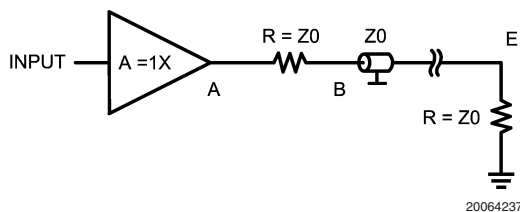
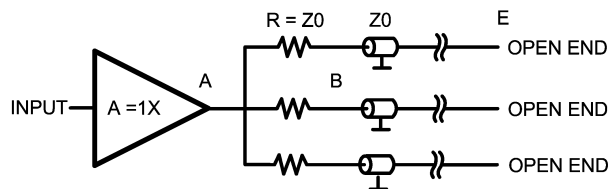
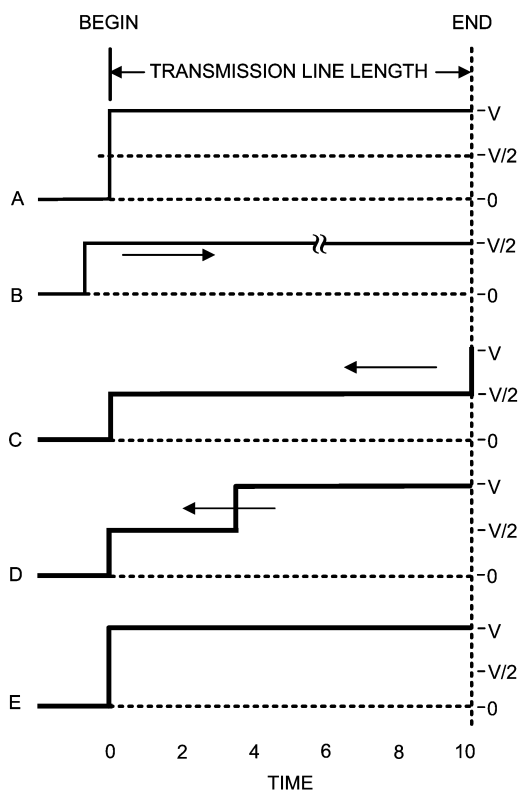

FIGURE 1.
FIGURE 3.
FIGURE 6.
- Use one buffer to drive one transmission line (see *Figure 1*)
- Use one buffer to drive several transmission lines each driving a different receiver. (see *Figure 3*)
In most cases, it is unrealistic to think that we can place a driver or buffer so close to the load that we don't need a transmission line to transport the signal. The pcb trace length between a driver and the load may affect operation depending upon the operating frequency. Sometimes it is possible to do measurements by connecting the DUT directly to the analyzer. As frequencies become higher the short lines from the DUT to the analyzer become long lines. When this happens there is a need to use transmission lines. The next point to examine is what happens when the load is connected to the transmission line. When driving a load, it is important to match the line and load impedance, otherwise reflections will occur and this phenomena will distort the signal. If a transient is applied at $T = 0$ (Figure 6, trace A) the resultant waveform may be observed at the start point of the transmission line. At this point (begin) on the transmission line the voltage increases to (V) and the wave front travels along the transmission line and arrives at the load at $T = 10$. At any point across along the line $I = V/Z_0$, where Z_0 is the impedance of the transmission line. For an applied transient of 2V with $Z_0 = 50\Omega$ the current from the buffer output stage is 40mA. Many vintage op amps cannot deliver this level of current because of an output current limitation of about 20mA or even less. At $T = 10$ the wave front arrives at the load. Since the load is perfectly matched to the transmission line all of the current traveling across the line will be absorbed and there will be no reflections. In this case source and load voltages are exactly the same. When the load and the transmission line have unequal values of impedance a different situation results. Remember there is another basic which says that energy cannot be lost. The power in the transmission line is $P = V^2/R$. In our example the total power is $2^2/50 = 80\text{mW}$. Assume a load of 75Ω. In that case a power of 80mW arrives at the 75Ω load and causes a voltage of the proper amplitude to maintain the incoming power.
Many applications, such as video, use a series resistance between the driver and the transmission line (see Figure 1). In this case the transmission line is terminated with the characteristic impedance at both ends of the line. See Figure 6 trace B. The voltage traveling through the transmission line
Another way to reach several points via a transmission line is to start several lines from one buffer output (see Figure 3). This is possible only if the output can deliver the needed current into the sum of all transmission lines. As can be seen in this figure there is a series termination used at the beginning of the transmission line and the end of the line has no termination. This means that only the signal at the endpoint is usable because at all other points the reflected signal will cause distortion over the line. Only at the endpoint will the measured signal be the same as at the startpoint. Referring to Figure 6 trace C, the signal at the beginning of the line has a value of $V/2$ and at $T = 0$ this voltage starts traveling towards the end of the transmission line. Once at the endpoint the line has no termination and 100% reflection will occur. At $T = 10$ the reflection causes the signal to jump to 2V and to start traveling back along the line to the buffer (see Figure 6 trace D). Once the wavefront reaches the series
termination resistor, provided the termination value is Z_0 , the wavefront undergoes total absorption by the termination. This is only true if the output impedance of the buffer/driver is low in comparison to the characteristic impedance Z_0 . At this moment the voltage in the whole transmission line has the nominal value of 2V (see Figure 6 trace E). If the three transmission lines each have a different length the particular point in time at which the voltage at the series termination resistor jumps to 2V is different for each case. However, this transient is not transferred to the other lines because the output of the buffer is low and this transient is highly attenuated by the combination of the termination resistor and the output impedance of the buffer. A simple calculation illustrates the point. Assume that the output impedance is 5Ω . For the frequency of interest the attenuation is $V_B/V_A = 55/5 = 11$, where A and B are the points in Figure 3. In this case the voltage caused by the reflection is $2/11 = 0.18V$. This voltage is transferred to the remaining transmission lines in sequence and following the same rules as before this voltage is seen at the end points of those lines. The lower the output resistance the higher the decoupling between the different lines. Furthermore one can see that at the endpoint of these transmission lines there is a normal transient equal to the original transient at the beginning point. However at all other points of the transmission line there is a step voltage at different distances from the startpoint depending at what point this is measured (see trace D).